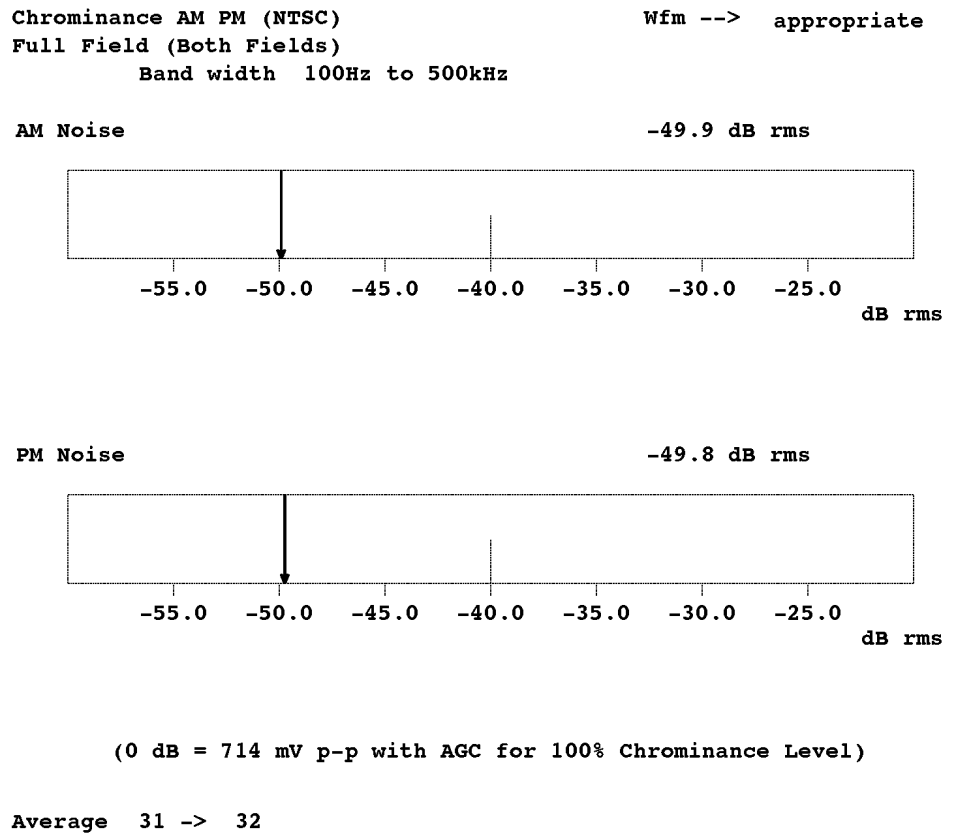

Figure 2-11: Chrominance AMPM display
Chrominance AMPM measures two types of chrominance noise: the amplitude-modulated (AM) noise component and the phase-modulated (PM) noise component of the chrominance channel as shown in Figure 2-11.